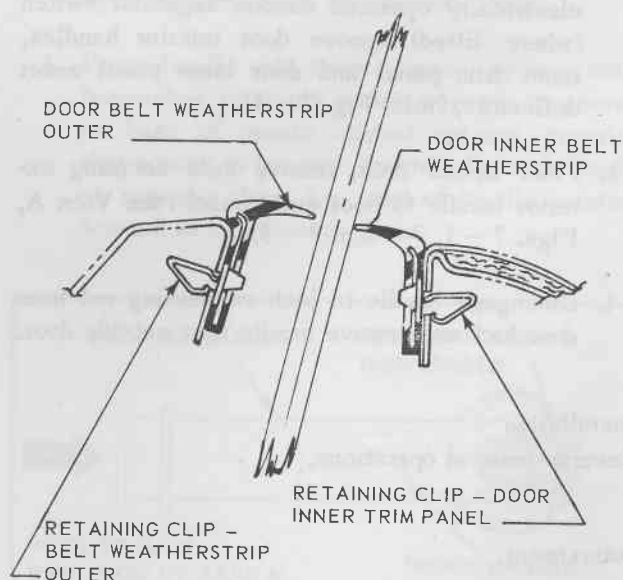

FIG. 7 - 17
3. Loosen bolts securing window anti-rattle brackets to door inner panel (see Fig. 7 - 2).